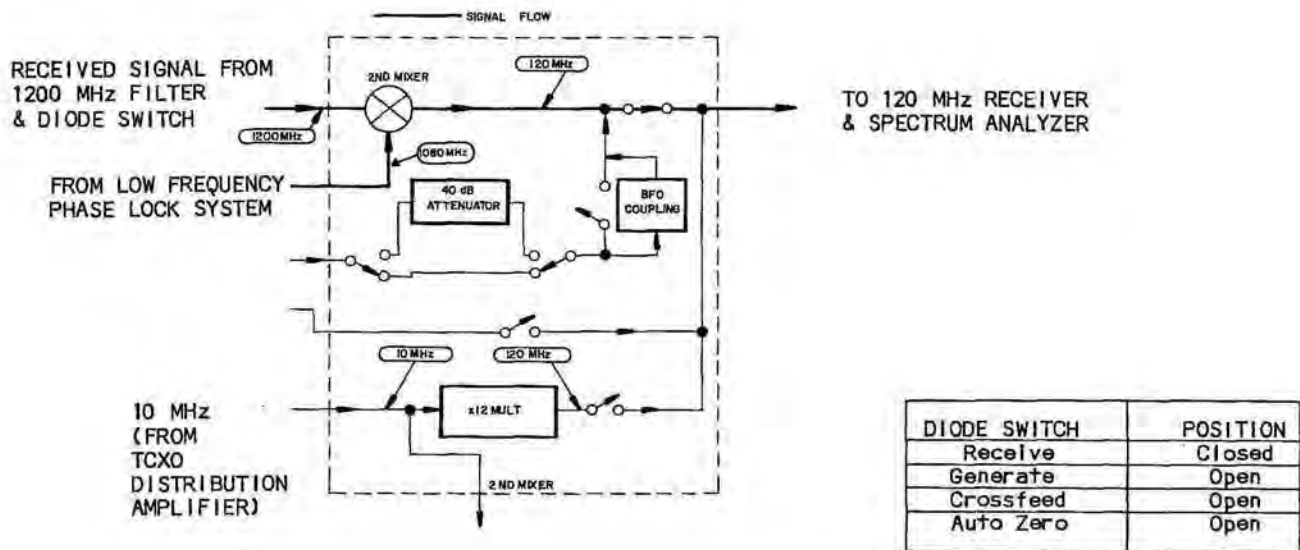

Figure 2-14 2nd Mixer Assy (Receive Signal Flow)
1. Signal Flow for Receive/Generate Modes (See Figures 2-14 & 2-15)